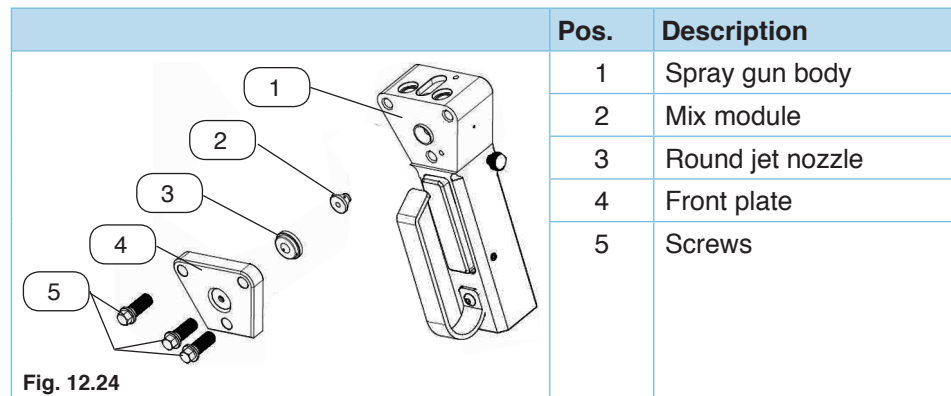

Fig. 12.24
- Mount the front cap (5) over the round jet nozzle (Fig. 12.24) with the three screws (4).